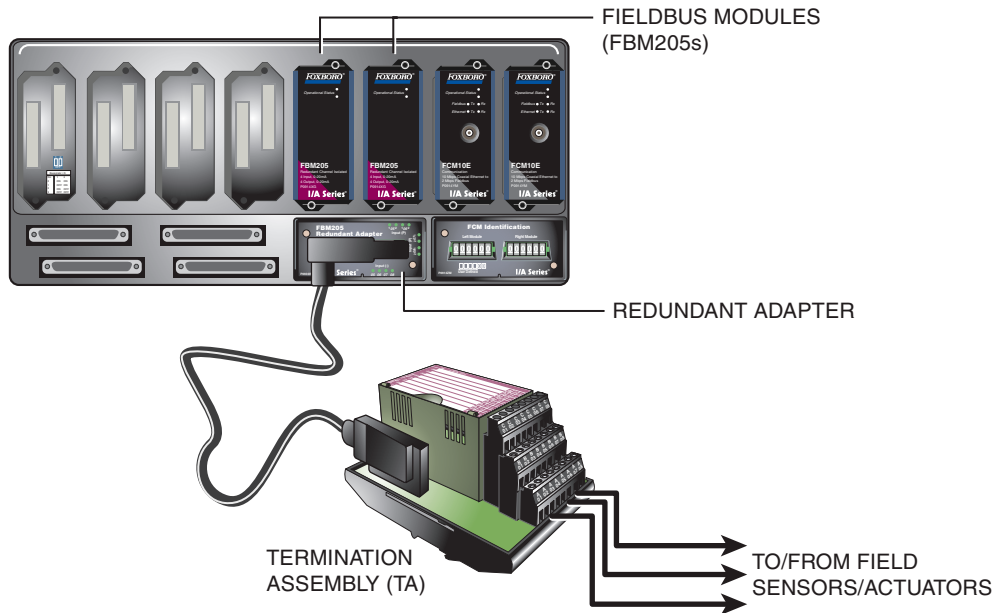

Figure 1. Redundant I/O Configuration
A redundant pair of the modules combine to provide redundancy at the Fieldbus Module (FBM) level, with field I/O wired to one common termination assembly (see Figure 1). Each module independently attempts to hold the output(s) at its specified output value(s), and each independently reports its observed value of the inputs.
Redundant modules must be located in adjacent positions on the baseplate (positions 1 and 2, 3 and 4, 5 and 6, or 7 and 8). To achieve the redundancy, a redundant adapter module is placed on the two adjacent baseplate termination cable connectors to provide a single termination cable connection (see Figure 1). A single termination cable connects from the redundant adapter to the associated termination assembly (TA).